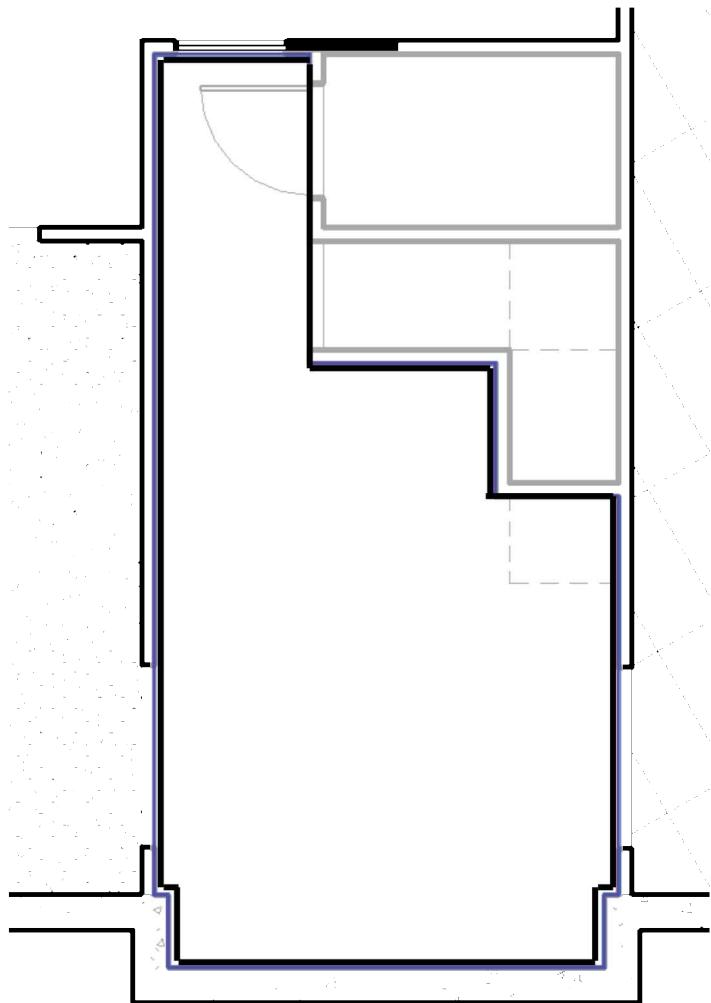

FIGURE 9-2.14 Sketching Ceiling
40. Sketch a line around the perimeter of the room using *Snaps* (Figure 9-2.14). Settings should be *Susp GB* ceiling at 7'-0".